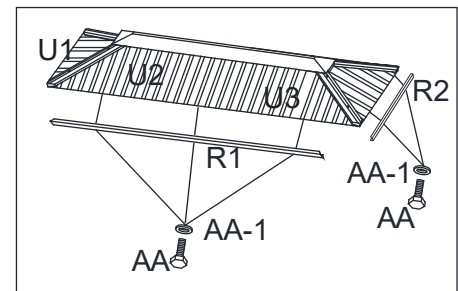

Figure 12-4
12.4: Attach the Roof Vent Side Trim - Long Side (R1) and Roof Vent Side Trim - Short Side (R2) to the Sides of Roof Vent Frame (P1 and P2) using Bolts (AA) and Steel washer (AA-1). Repeat for all sides. Tighten all Bolts. See Figure 12-4.